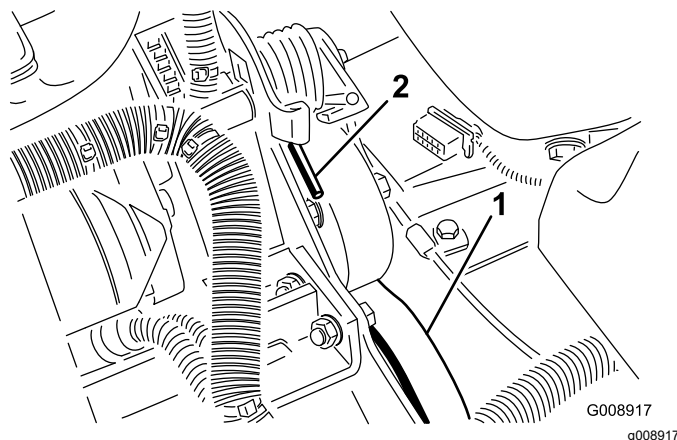

Figure 74
3. Push down and forward on the spring end (Figure 74) to unhook it from the bracket and release tension on the spring.